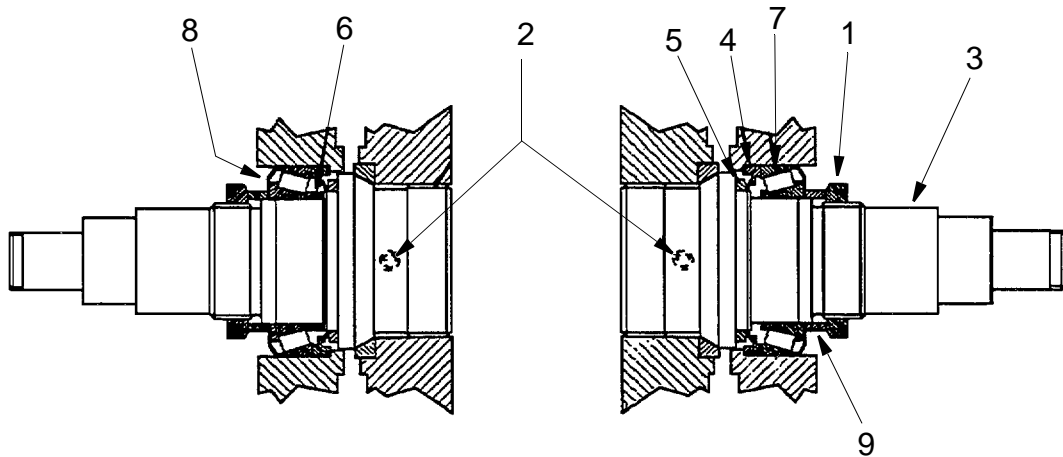

Figure 11 Joint axes 2 and 3
5. Remove the KM nut (1) on each shaft. See Figure 11.
6. Remove the stop screws (2) in the lower arm. See Figure 11.
7. Remove the protective plates <2:3/10> on the inner side of the shaft, unscrew the shafts (3). The bearing is pressed out with the shaft. See Figure 11.
**NOTE! Mount the left side first, complete, robot seen from behind! See Figure 11.**
10. Mount V-ring (5) and distance ring (6) on shaft (3).
12. Mount the shaft (3) in the lower arm. Tighten with a torque of 300 Nm.
13. Apply Loctite 243 on stop screw (2) and tighten with 34 Nm.
14. Mount sealing ring (4), turn the largest diameter inwards.
15. Mount and grease the bearing (7).
16. Insert the NILOS ring (8).
17. Insert the distance ring (9).
18. Mount the KM nut (1). Apply Loctite 243 and tighten the nut to 180 Nm, then loosen the nut again and tighten with a torque of 90 Nm.
19. Then mount the right side, paragraphs 12-18 (similar to the left side, except for the distance ring (6)).